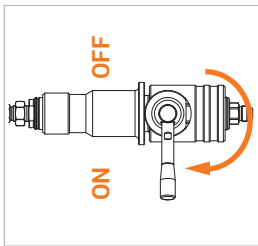

Figure 11
- ▶ Turn the actuation lever (Pos. 3) on the fueling nozzle through 180° to the ON position (Figure 11).